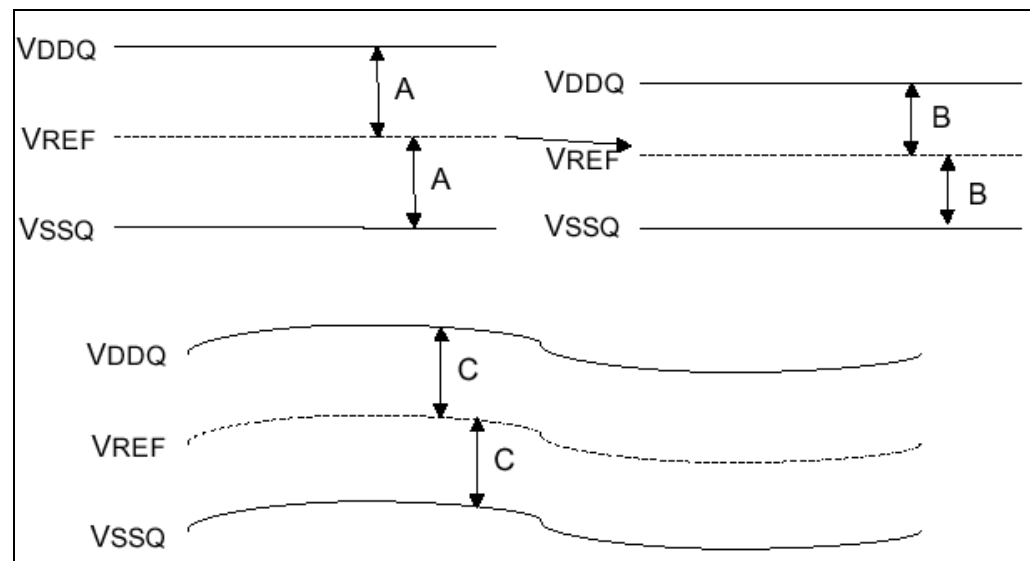

Figure 4 Vref tracking of VDD
- Vref must track the midpoint of the signal voltage swing (generally $VDDQ/2$) within 3% over all valid voltage, temperature, and noise level conditions. See Figure 4 below.